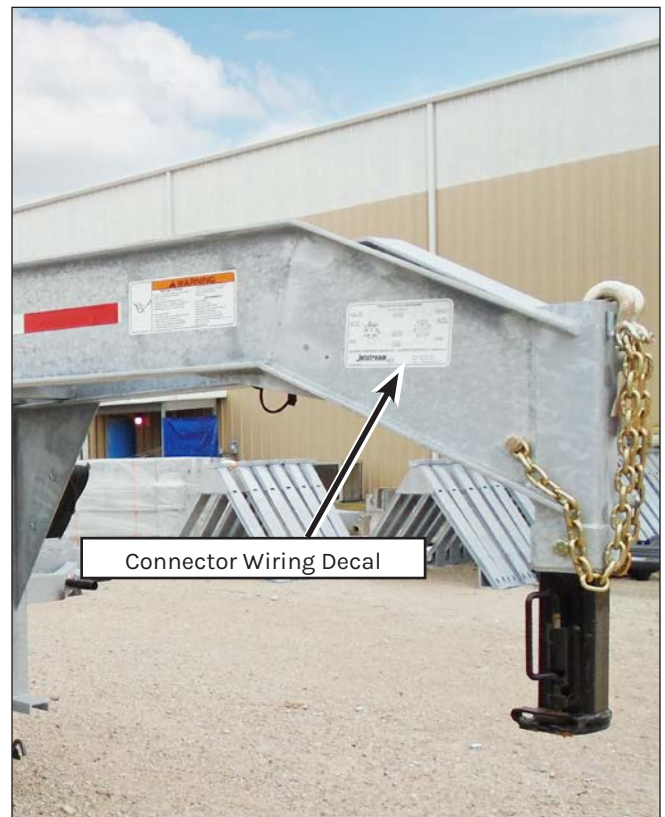

Figure 51: Connector Wiring Decal.
5. If there is continuity, a wiring problem is likely the cause. Inspect the wiring for poor connections or broken wire and repair. Refer to the Connector Wiring Decal (Figure 51).